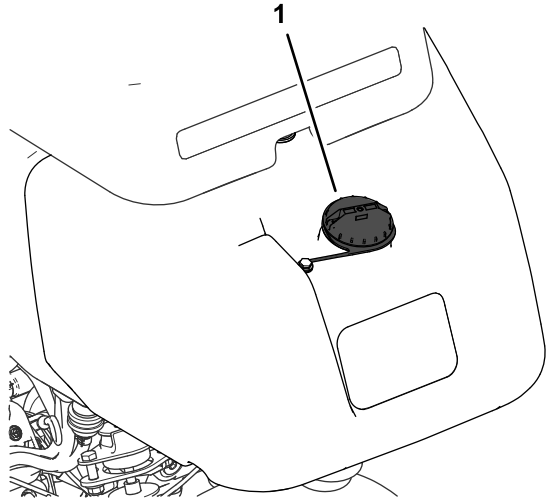

Figure 33
1. Clean around the fuel-tank cap and remove it (Figure 33).